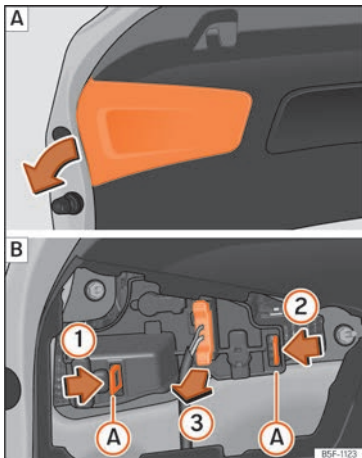

Fig. 117 Remove the cover from the boot lid and detach the bulb holder.
- Remove the rear lid cover in the direction indicated »» Fig. 117 [A].
- Unlock the retaining tabs (A) of the bulb holder, following the direction of arrows (1) and (2) »» Fig. 117 [B].
- Remove the bulb holder, moving it in the direction of arrow (3) »» Fig. 117 [B].
- Reinstall the bulb holder, making sure that locking clips (A) »» Fig. 117 [B] are properly clipped on.